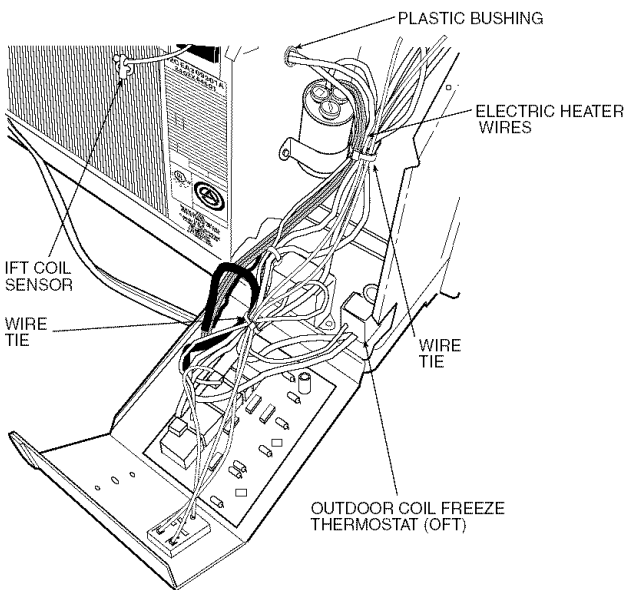

Fig. 7 — Completed Assembly (Heat Pump Unit Shown)
9. Dress wires using wire ties provided. See Fig. 7.
- Route freeze sensor from PC board through plastic bushing in side panel with electric heater wires. See Fig. 7.
16. Dress wires using wire ties provided. See Fig. 7.
11. Dress wires using wire ties provided. See Fig. 7.